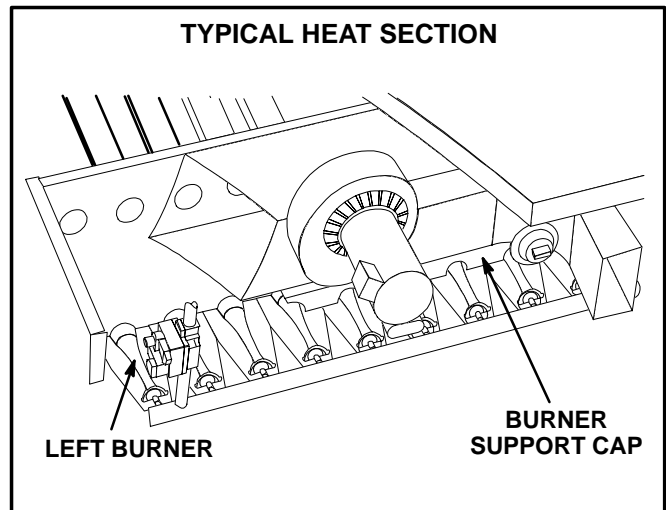

FIGURE 14
- 1- Loosen four screws and remove burner support cap. See figure 14.